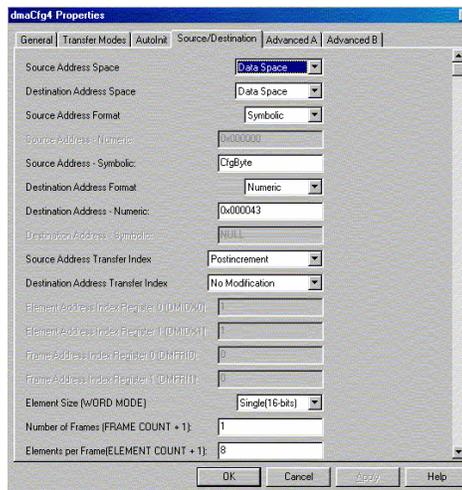

Figure 18. DMA dmaCfg4 Source/Destination Tab
- In the *Source/Destination* tab, set options as shown in Figure 18. Source is an array called *CfgByte*, and destination is McBSP1 transmit register located at 0x43; both addresses are in data space. The source address is incremented after every transfer. There are a total of 8 commands, where each command forces the A/D to convert through all 8 channels. Click OK—the DMA configuration object is set. Now to program the *Read* DMA channel.